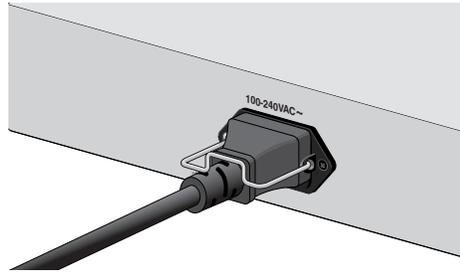

Figure 16 Securing the Power Cord with the Retaining Clip
3. Secure the cord by lowering the power cord retaining clip, as illustrated in Figure 16.